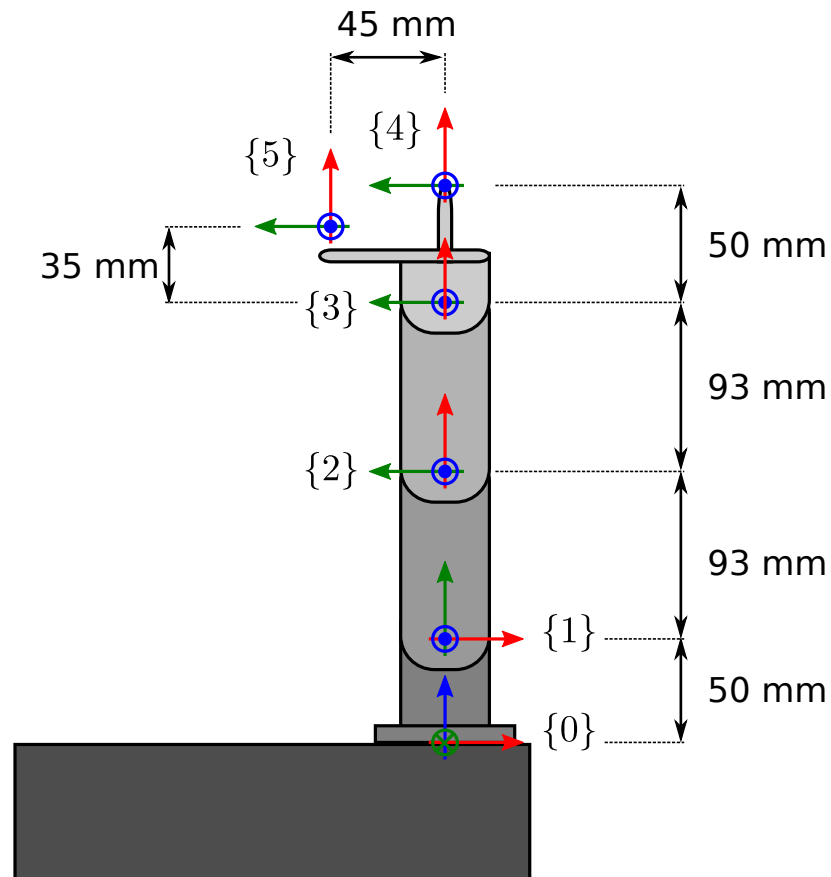

Figure 1: Robot model in its default configuration and fundamental dimensions.
Figure 1 shows a schematic of the robot with a set of coordinate systems following the Denavit-Hartenberg convention (except for frame 5). The dimensions given in the schematic are indicative and you might need to revisit them in PART 5 of this assignment, in order to better represent the actual robot that you will work with.
•**Problem 1:** Find, by the use of Figure 1, the direct kinematic transformations, T_4^0 for the robot stylus, and T_5^0 for the robot camera, as function of all joint angles.
Hint 1: Feel free to refine the dimensions and frame positions that you have received in Figure 1, in order to match the actual hardware you are using.